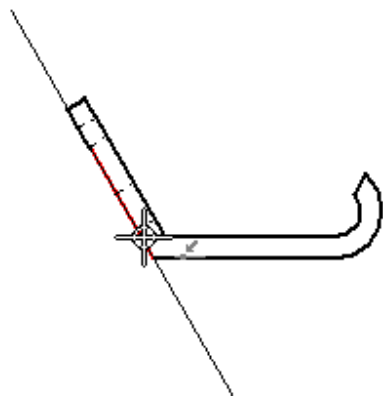
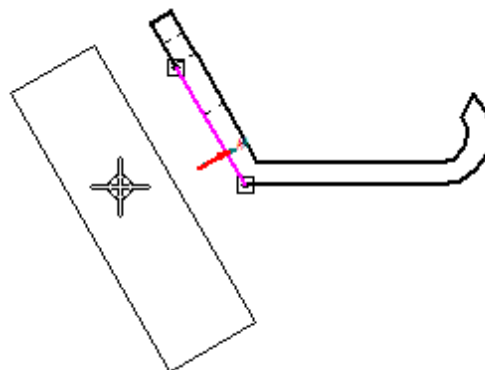
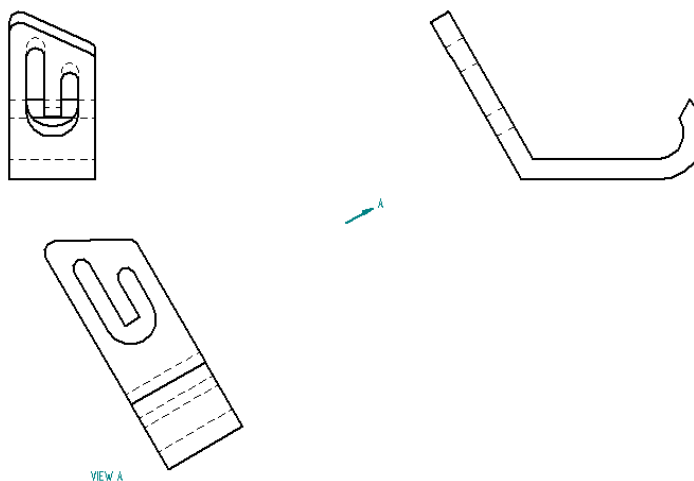

Figure 12-37 Edge to be selected
Figure 12-38 Moving the cursor to place the view
Figure 12-39 Drawing sheet after generating the auxiliary view
- Generate the drawing views, refer to Figures 12-37 through 12-39.
2. Select the edge, as shown in Figure 12-37. An imaginary fold line is formed and the auxiliary view is projected normal to this fold line. Move the cursor and to place the view, see Figure 12-38. After you place the view, the arrow pointing in the direction normal to the fold line is displayed, as shown in Figure 12-39.